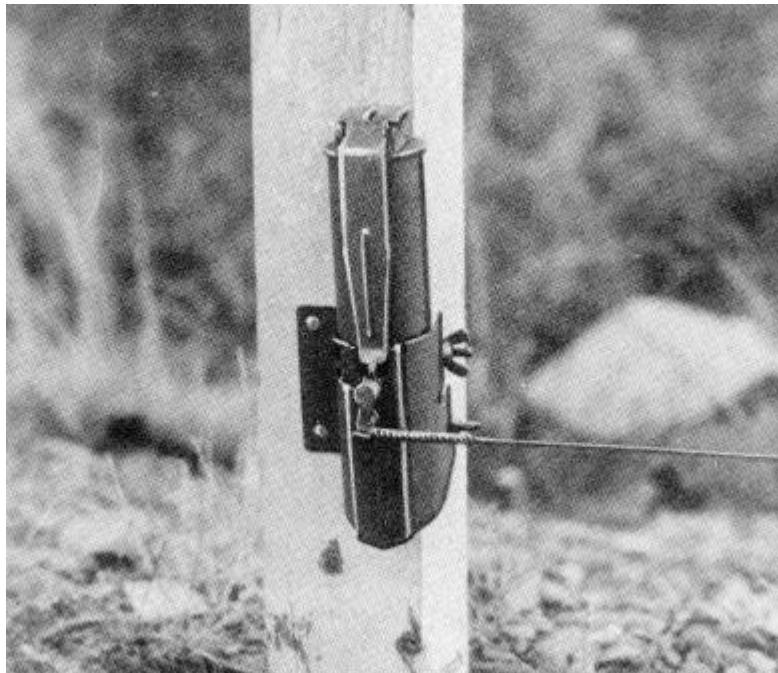

Figure 6-6      M49A1 Trip Flare Armed
- d. At this point, ensure that the trip wire is taut and fastened at both ends with the trigger in a vertical position and the end of the lever behind the tongue of the trigger, so that when the safety clip assembly is removed, the lever will still be held by the trigger as shown in Figure 6-6.